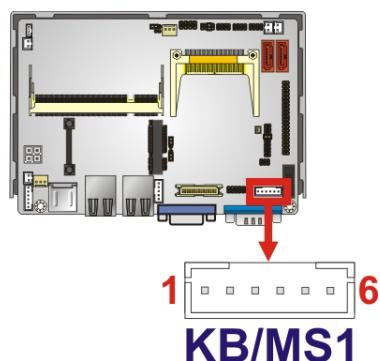

Figure 3-8: Keyboard/Mouse Connector Location
**CN Location:** See Figure 3-8